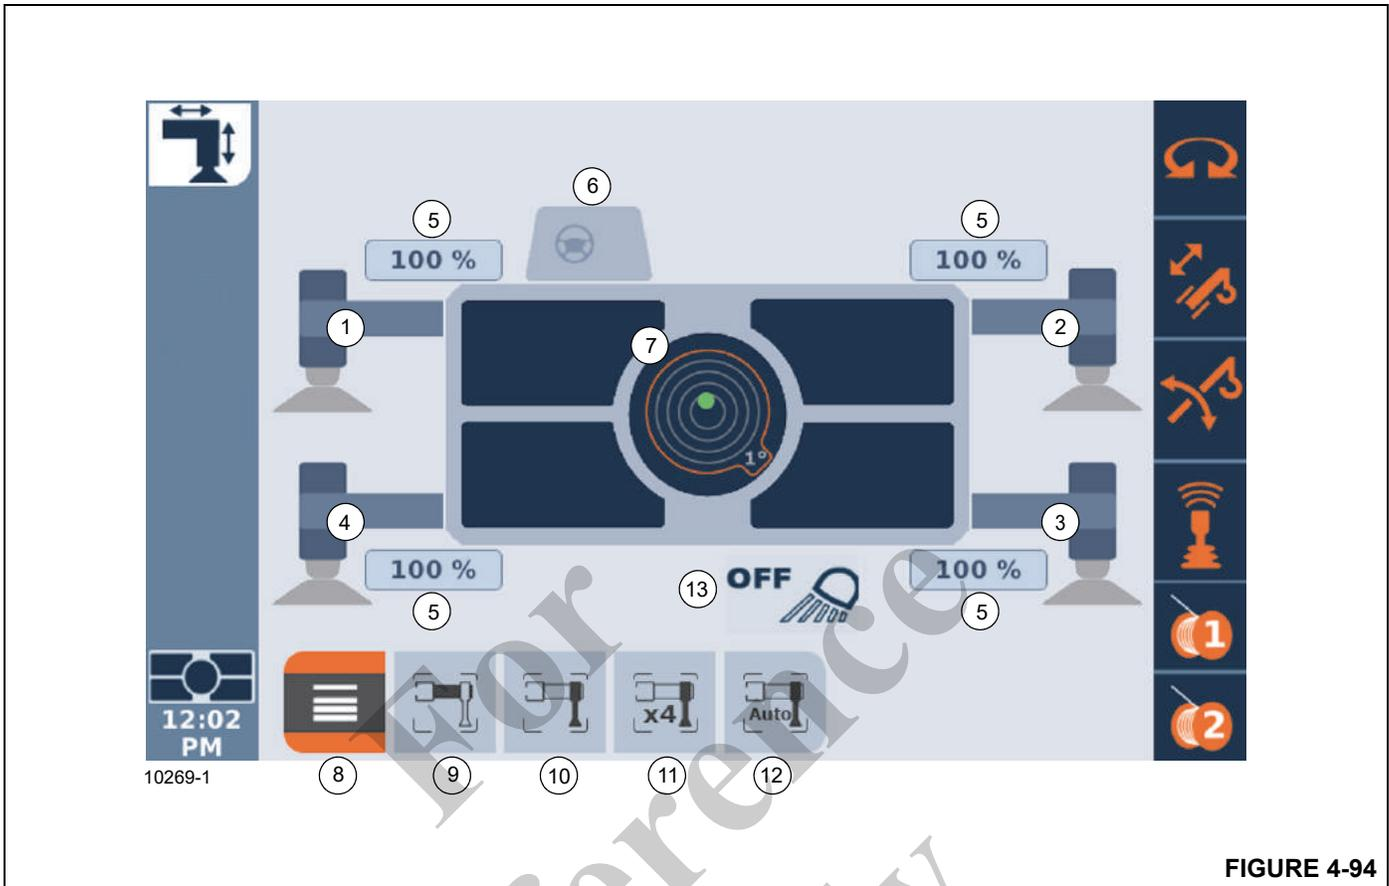

FIGURE 4-94
The Outrigger Extend/Retract function screen (Figure 4-94) allows the operator to set the outriggers and level the crane using either a manual or semi-automatic mode. The Outrigger Extend/Retract function screen is also used to retract and stow the outriggers as well as operate the side mounted carrier work lights.
The steering wheel symbol (6, Figure 4-94) shown on the Outrigger Extend/Retract function screen corresponds to the front of the crane. The terms left and right correspond to the operator's left and right sides when looking forward over the front (axle) of the crane.
1. Using the Jog Dial or Arrow Buttons on the Navigation Control Pad, select the Carrier Side Lights On/Off Icon (13, Figure 4-94) (icon background will turn orange when selected).